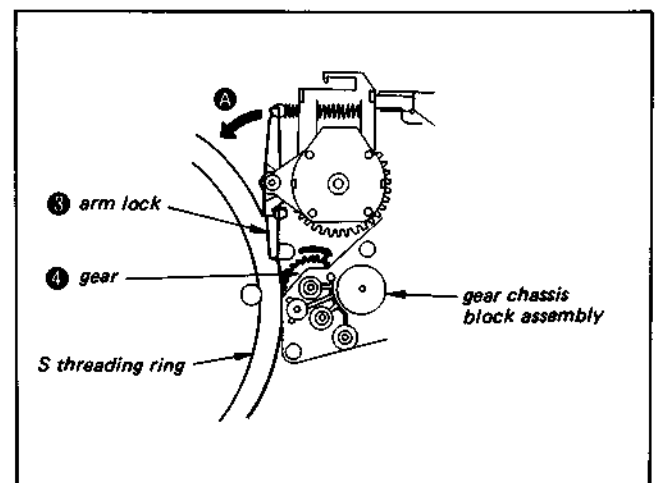

Fig. 1-6
- 2) Push arm lock ③ in arrow ④ direction, and release the lock (Fig. 1-6).
- 3) Turn gear ⑤ of the gear chassis block assembly clockwise (Fig. 1-6).